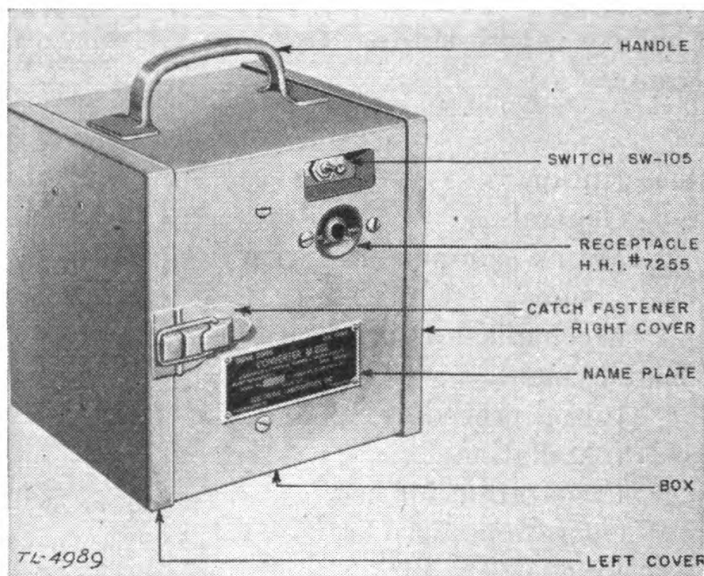
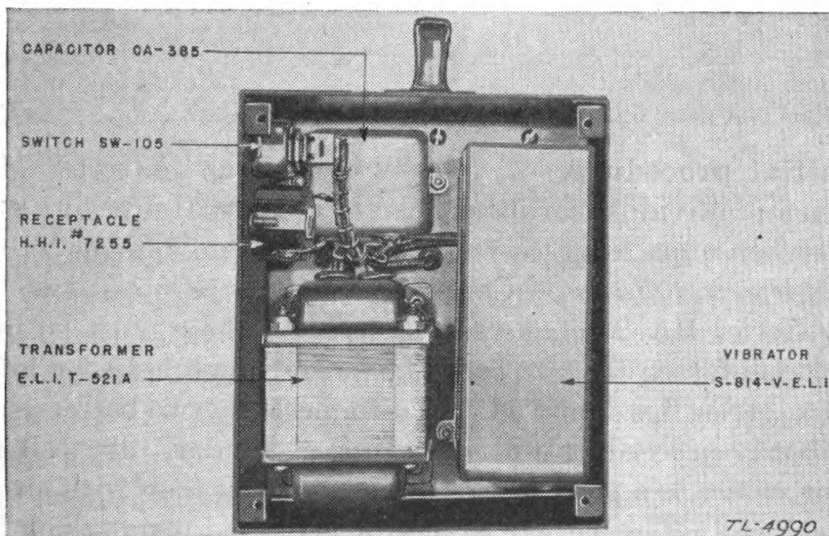

FIGURE 1.—Converter M-222—outside view.
FIGURE 2.—Converter M-222—inside of chassis.
Dimensions and weight of converter M-222 are as follows (see fig. 1) :
a. Mounting shelf assembly.—The mounting shelf assembly consists of a shallow steel shelf on which are mounted the following components: on the top of the mounting shelf assembly are mounted one transformer (E. L. I. T-521-A), one 0.25- μ f capacitor CA-385, one 1- μ f capacitor CA-234, and one vibrator (S-814-V-E. L. I.). The vibrator is encased in a metal box and is held in place by two steel clips which are welded to the cover. The vibrator (S-814-V-E. L. I.) plugs into a six-prong socket (A. P. C. MIP6). A phenolic strip is mounted on the under side of the mounting shelf assembly directly under capacitor CA-234. The mounting shelf assembly is fastened to the box by means of four No. 6-32 flat top, binding head screws. (See fig. 2.)
b. Box.—The box (figs. 1 and 2) is a rectangular, steel box with two opposite sides removable. On the front panel are mounted one receptacle (H. H. I. No. 7255), one name plate, the lower section of one catch fastener, and one switch SW-105. The switch is mounted in
a recess in the panel. The ON and OFF positions of the switch are marked on this panel as shown in figure 1. A handle is welded to the top of the box, and the lower section of the other catch fastener is mounted on the back of the box. The mounting shelf assembly is fastened to this box in the position shown in figure 2, which leaves a space on the left-hand side for installing batteries.
12. Replacing parts.—Remove the four No. 8-32 round head steel screws which hold the right cover in place. Remove the right cover. (See figs. 1 and 2.)